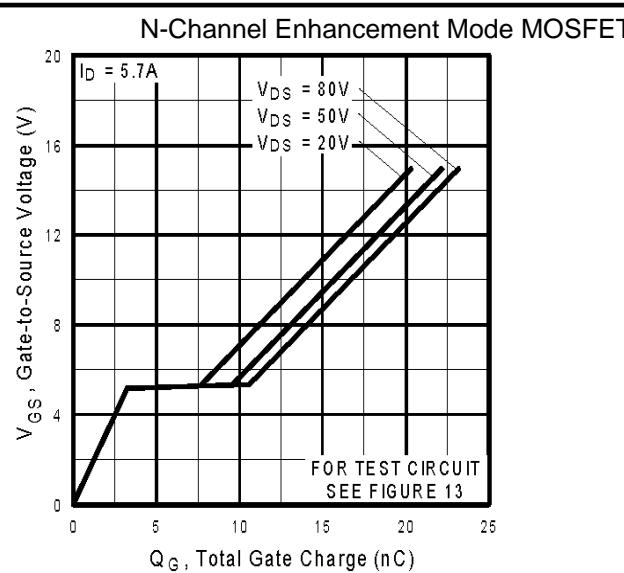

Fig 6. Typical Gate Charge Vs.
| Q_{gd} | Gate-to-Drain ("Miller") Charge | — | — | 11 | | $V_{GS} = 10\text{V}$, See Fig. 6 and 13 ④⑥ |